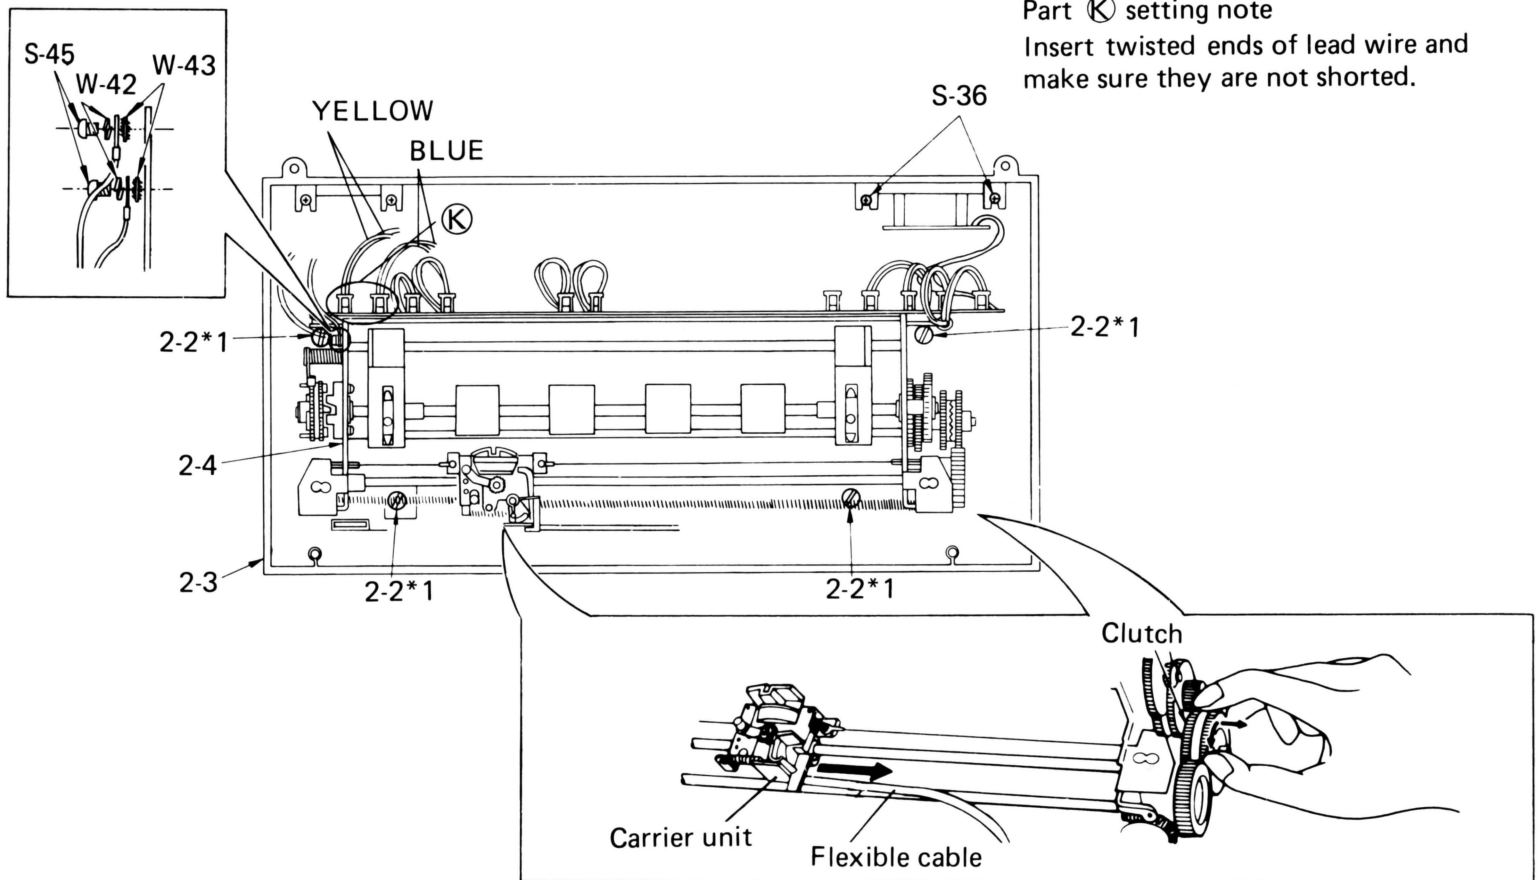

Figure 16
When reassembling, keep pulling the clutch and revolve it counterclockwise to move the carrier unit to the center (Refer to Figure 16), and stick the flexible cable to the earth plate (L) (Refer to Figure 26).